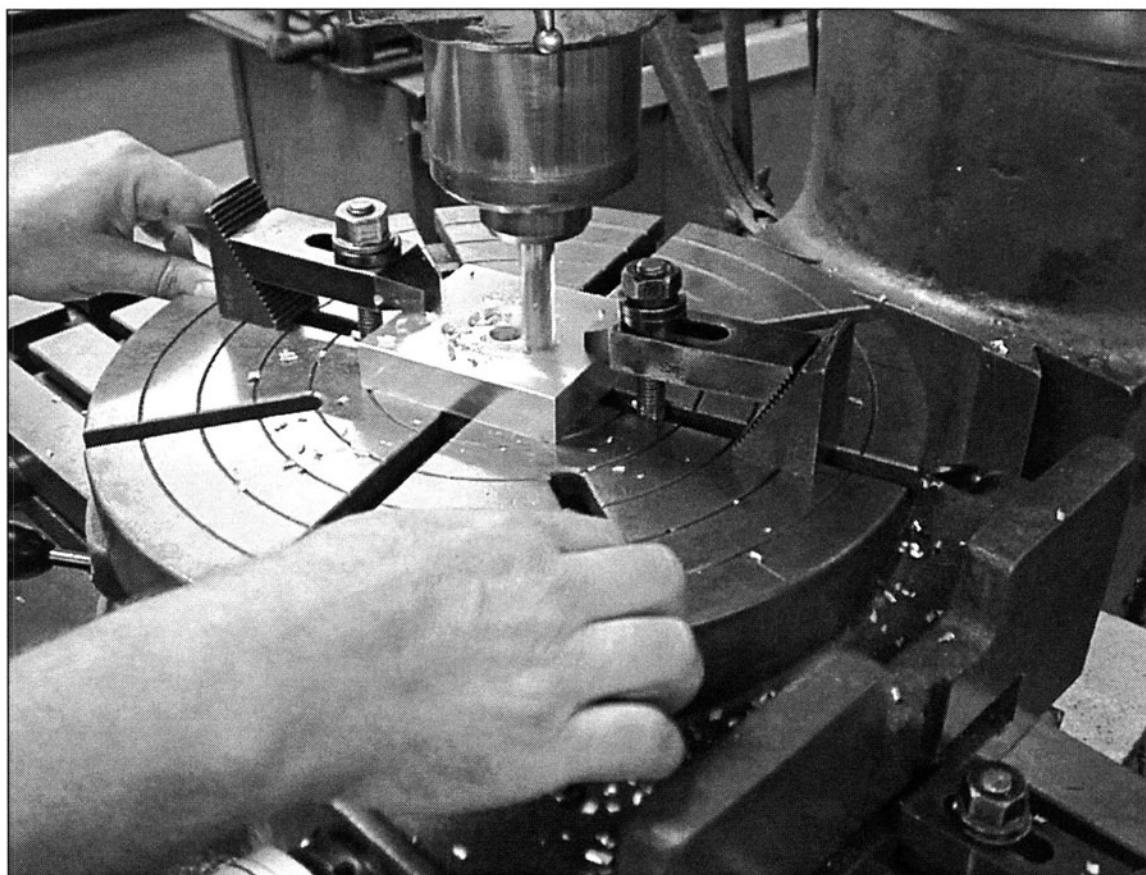

FIGURE 10-4 Large counter bores are easy to machine with a rotary table.
2. *Disengage the feed handle to machine soft materials. (See Fig. 10-4)*
6. *Use the rotary table to machine large counter bores. (See Fig. 10-4)*